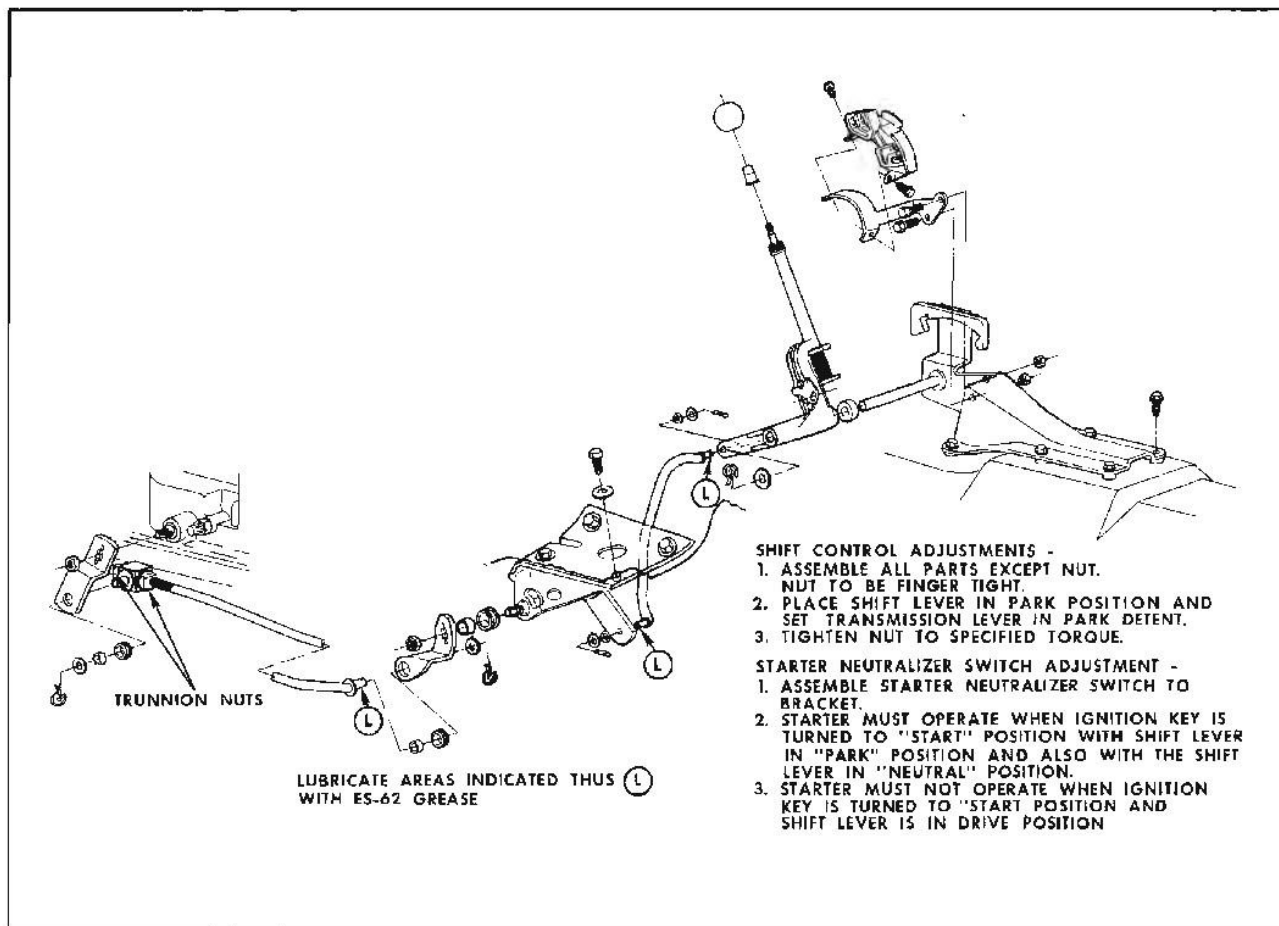

Fig. 7B-29 Console Shift Control Linkage
2. Pry out old seal (Fig. 7B-30).
3. Coat outer casing of new oil seal with gasket sealing compound and drive it into place with installer J-5154 (Fig. 7B-31).